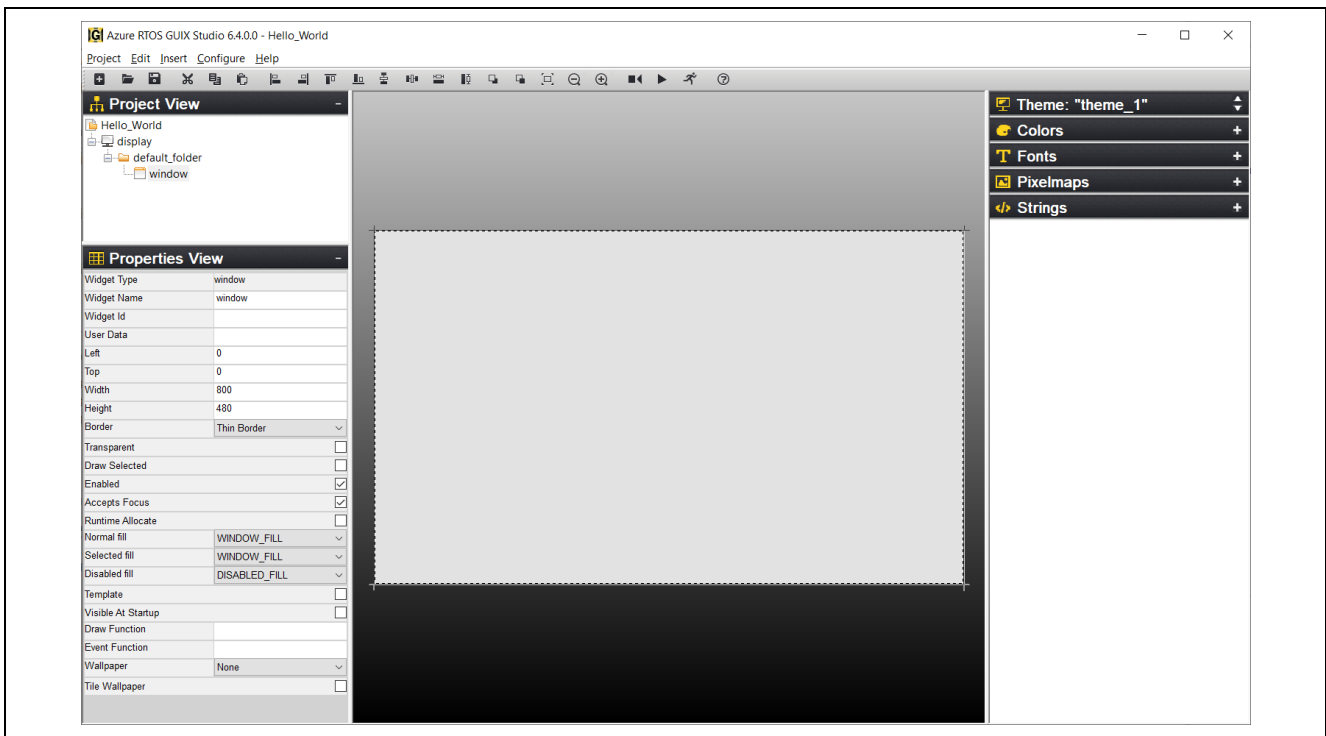

Figure 41. After Settings New Project “Hello World”
4. Star New Project “Hello World” should look similar **Figure 41**.